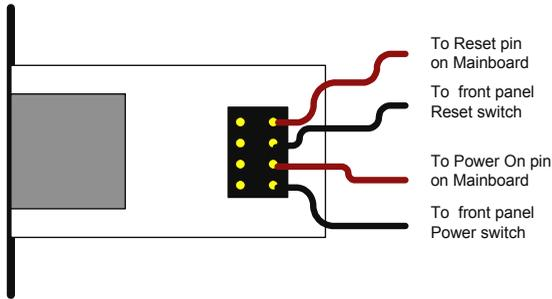

Figure 19 Reset/power bracket
Figure 19 shows the top view of the reset/power bracket.
3. Connect the cable to the pin connector on the bracket as shown in Figure 19.